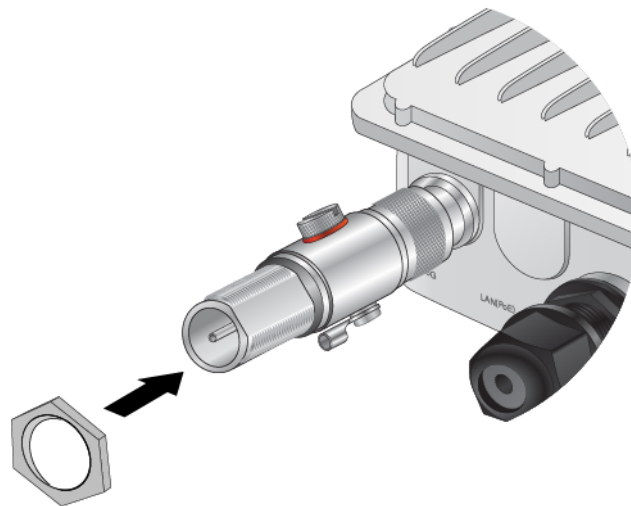

Figure 16. Screwing the Nut onto the Surge Protector
3. Screw the nut onto the surge protector. Refer to Figure 16.